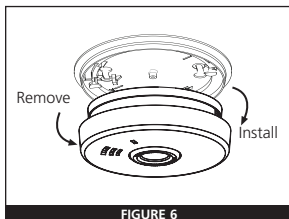

FIGURE 6
- To activate the alarm, install the alarm on the mounting bracket (Figure 6) and rotate the alarm clockwise (as indicated on the alarm cover) until the alarm snaps into place.